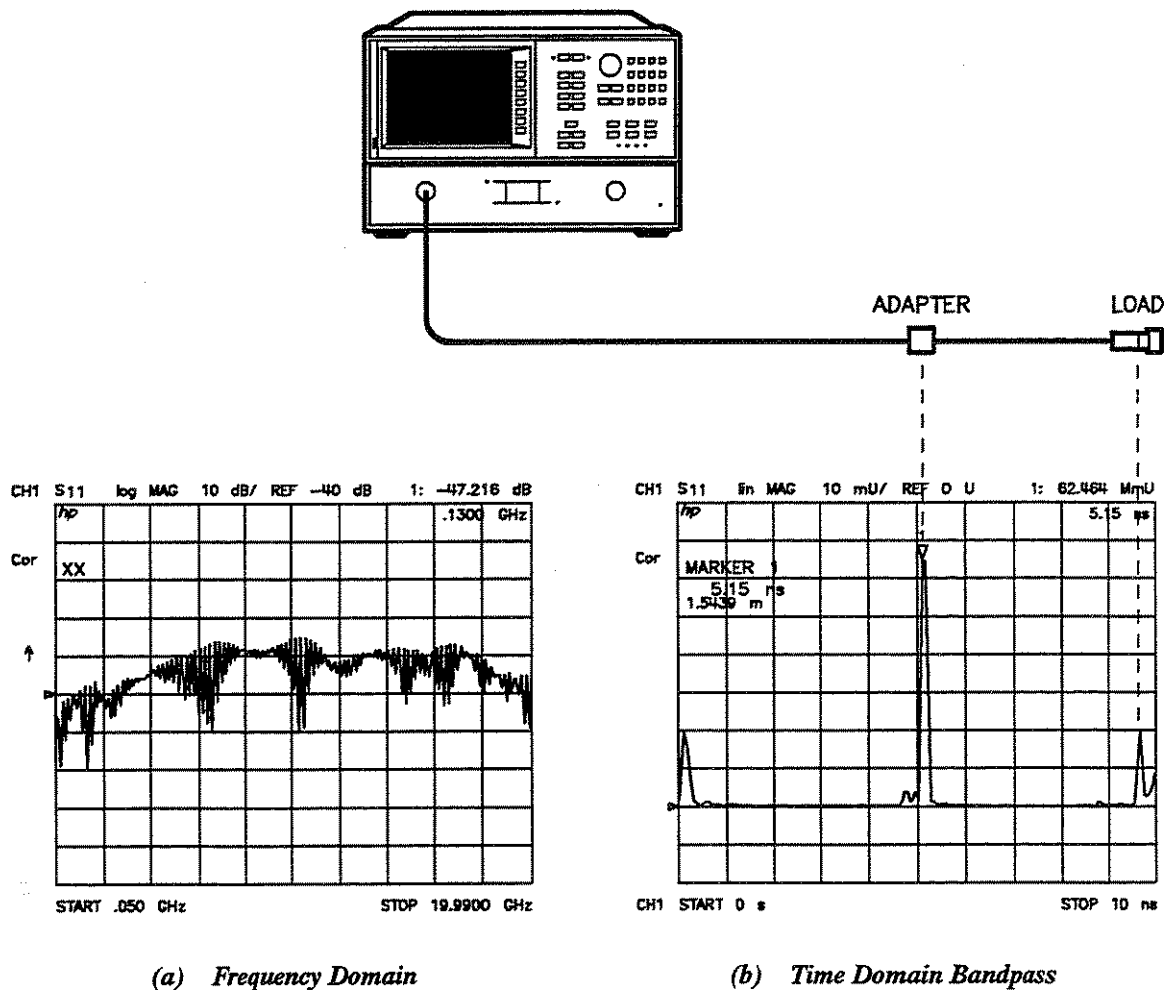

Figure 9-3. A Reflection Measurement of Two Cables
3. Connect one or more lengths of cable, with adapters between cable sections, as shown at the top of Figure 9-3.
9. Figure 9-3 shows typical frequency and time domain responses of a reflection measurement of two sections of cable.
Interpreting the Bandpass Reflection Response Horizontal Axis. In bandpass reflection measurements, the horizontal axis represents the time it takes for an impulse launched at the test port to reach a discontinuity and return to the test port (the two-way travel time). In Figure 9-3, each connector is a discontinuity.